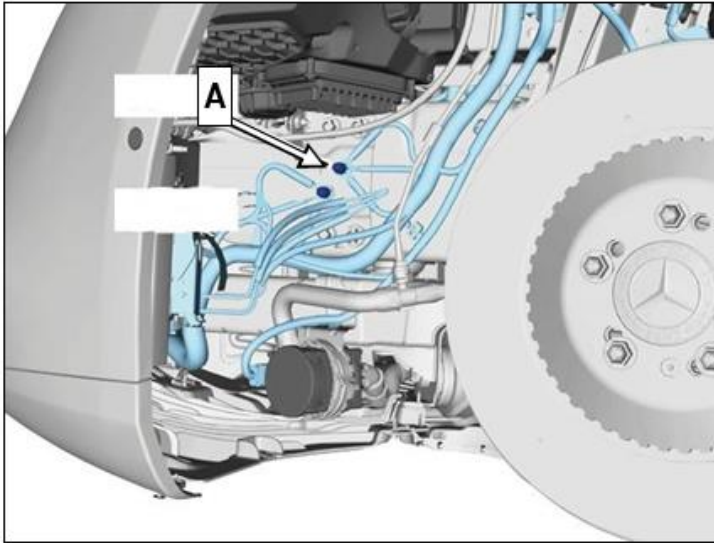

Figure 2
6. Check whether the threaded connection (**A, figure 2 and 3**) of the ground point "W52/8" has been installed correctly on the outer front left longitudinal member.